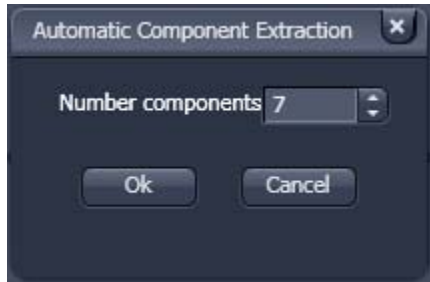

Fig. 4-249 ACE, number of components selection window
- Select the number of components in the sample and click **Ok** (Fig. 4-249).